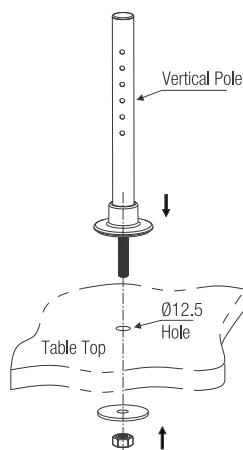

Fig. 1.
2. Fix the vertical pole as shown in Fig. 1.
1. Clamp the vertical pole onto the edge of the table as shown in Fig.1.